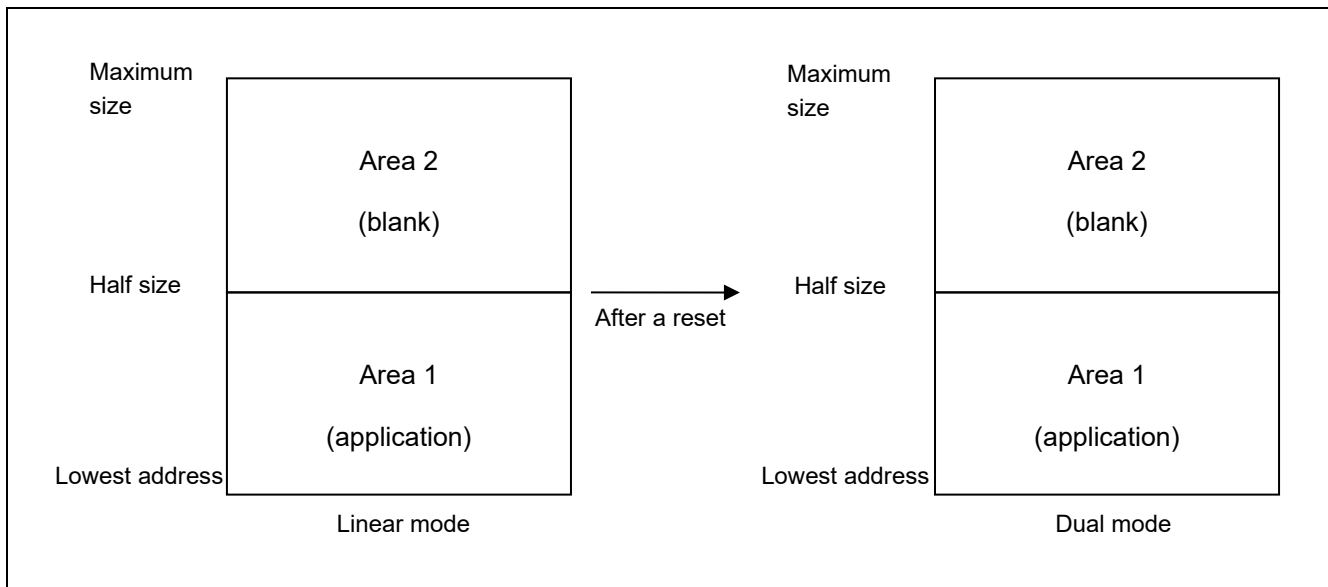

Figure 13.1 Programming an Application for Use in Dual Mode in Linear Mode
Condition: Do not program area 2 in Figure 13.1.
2. Program the program file for the option-setting memory that specifies the dual mode and the program file (application) for area 1 in Figure 13.1.
Remark: When switching from linear mode to dual mode is to proceed, it is recommended that area 2 in Figure 13.1 be blank.